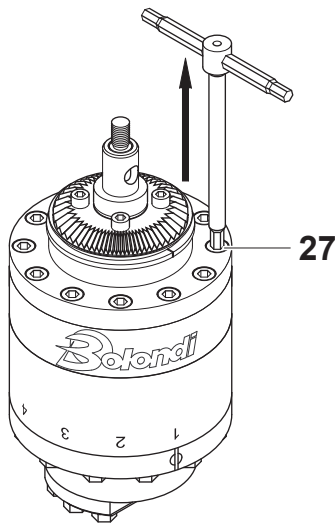

Fig. 9.6
9.3.4) Using a 6 mm. hex spanner undo and remove the 12 screws pos. 27 (Fig. 9.6).